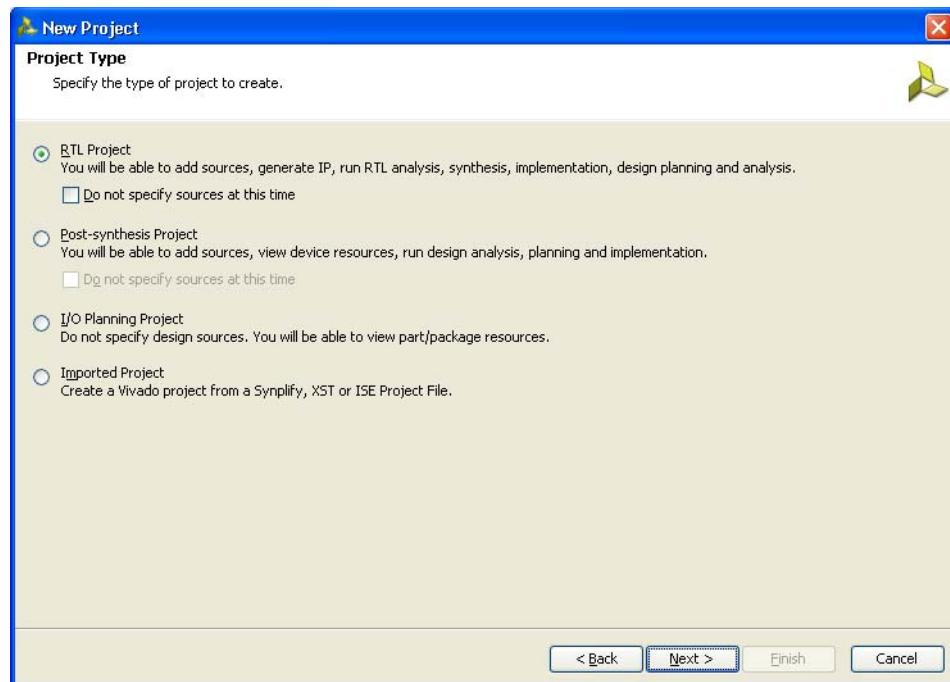

Figure 5-4: Project Type
4. Click **Next** to proceed to the **Project Type** page (Figure 5-4). Select the **Project Type** as **RTL Project** because MIG deliverables are RTL files.